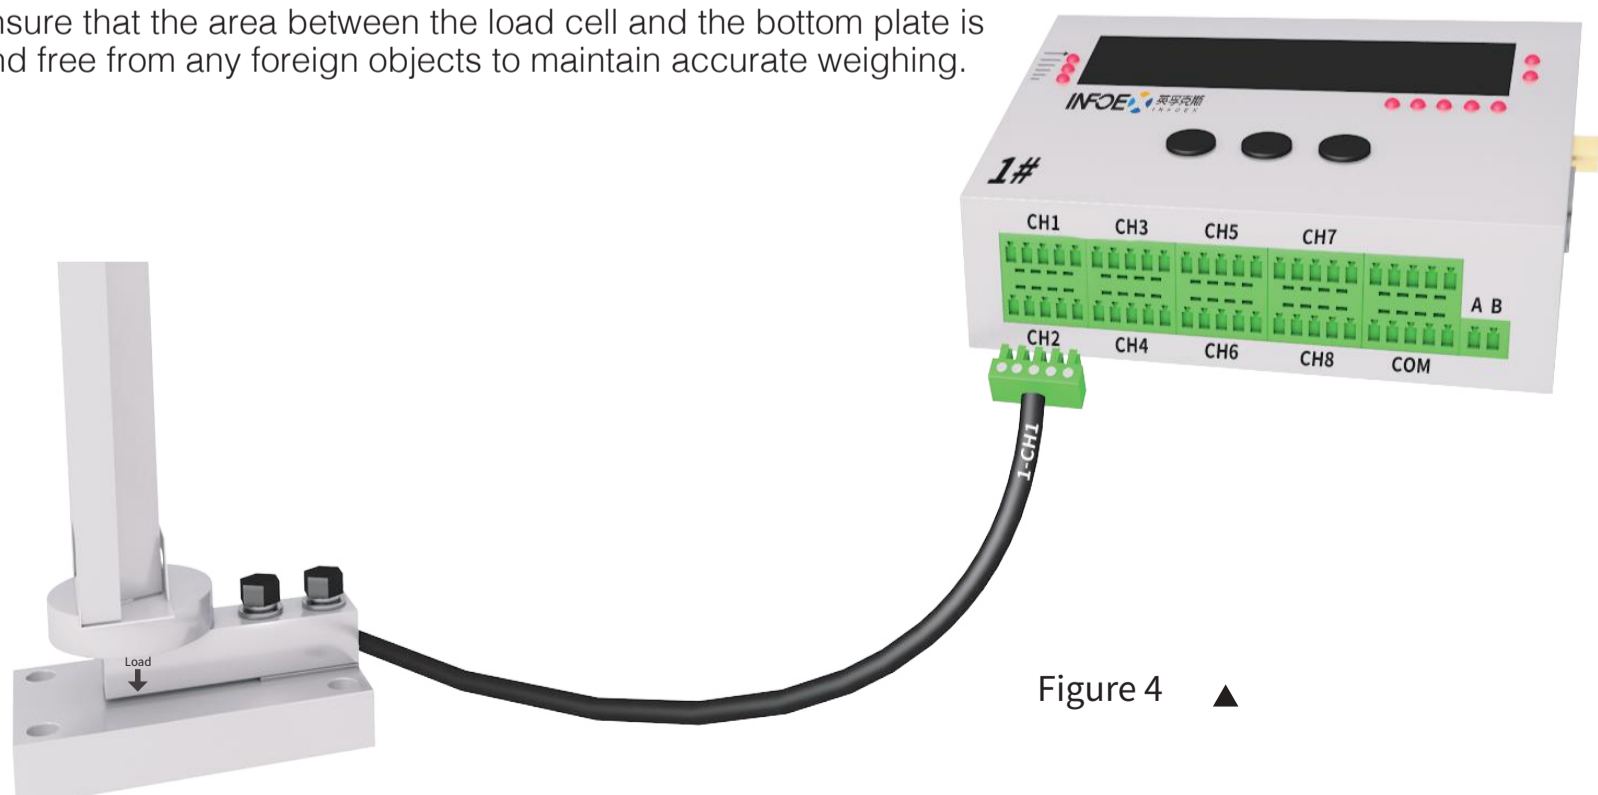

Figure 4 ▲
- 3** Connect the load cell cables to the weighing controller following the labeled order, as illustrated in Figure 4.